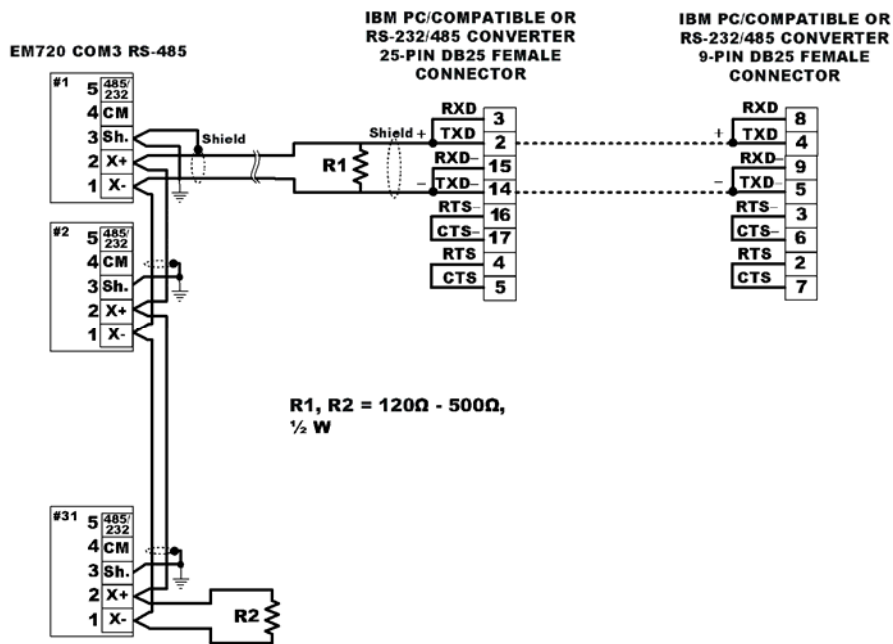

Figure 25: RS-485 Multidrop Connection, 25-pin or 9-pin PC COM Port
2. Use a flat screwdriver to open the battery housing cover, as in figure 25, turning counter-clockwise and remove the battery,